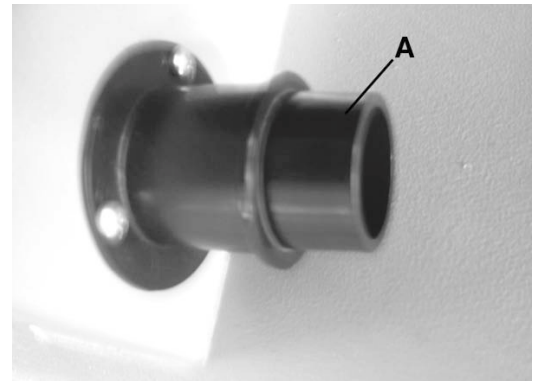

FIGURE 18
- 1) This bandsaw comes with a 1-1/4" dust chute and adaptor (A) Fig.18 which accepts a standard 1-1/4" vacuum hose or 1-1/4" dust collector adaptors. Note: Adaptor must be inserted inside the dust chute.